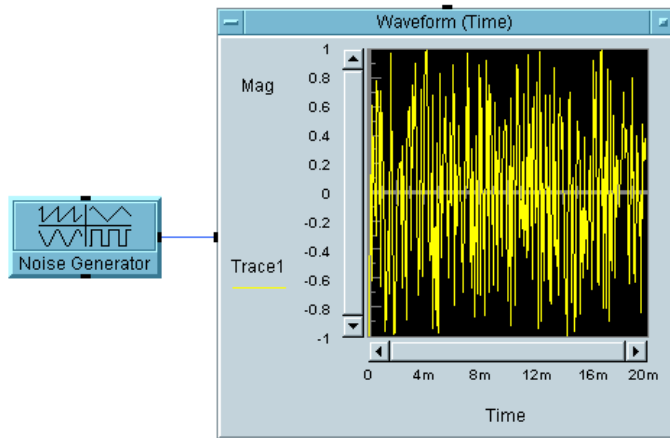

Figure 126 Displaying a Waveform
- 3 Connect the data output of the Noise Generator to the data input of Waveform (Time) and run the program. It should look like Figure 126.